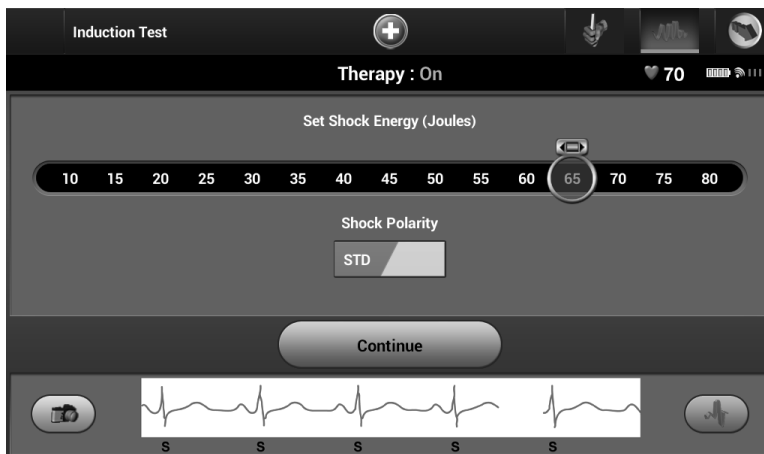

Figure 32: Setting the desired first shock energy for defibrillation testing
3. Select either standard (STD) or reverse (REV) polarity (Figure 32).